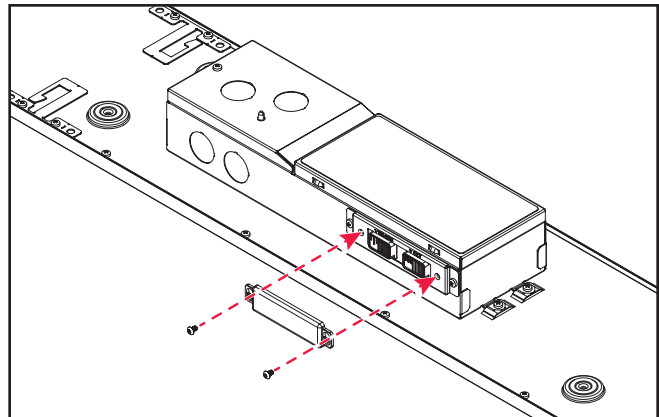

Figure 6.
12. Once desired lumen level and CCT have been selected, attach provided switch cover securely using provided screws. (Figure 6.)